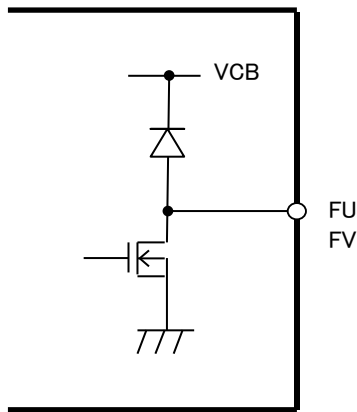

FIGURE 2.2.3 Equivalent Circuit Around FU, FV Pins
- Note 4: The equivalent circuit is shown in FIGURE 2.2.3.